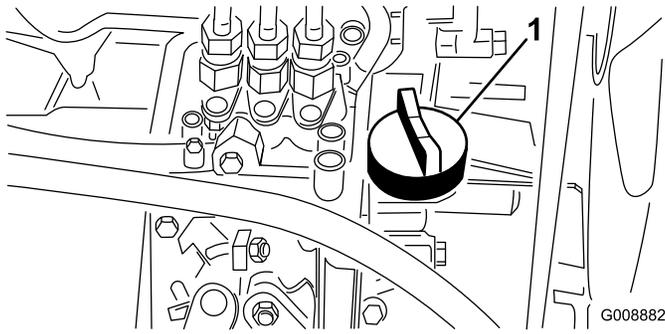

Figure 26
4. If the oil level is low, remove the oil fill cap (Figure 26) and gradually add small quantities of oil, checking the